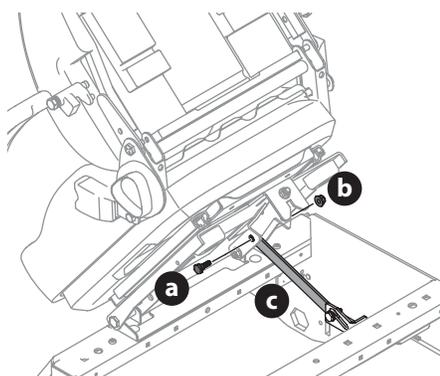

Figure 9
- Remove the shoulder screw (a) and flange lock nut (b) from manual bag and install the seat lockout bracket (c) (Figure 9).